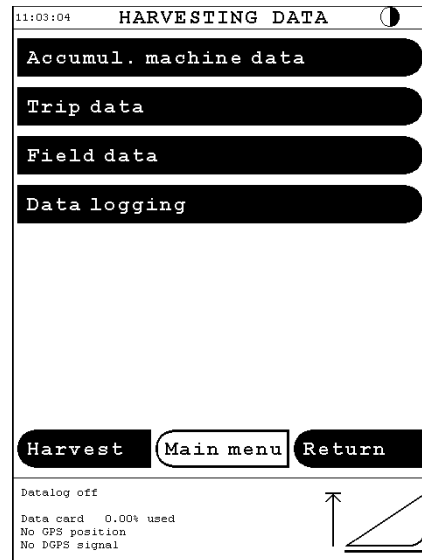

Fig. 22
4.6.1 Data Logging in General, (Fig. 22)
1. "Data logging" must be activated in the machine setup, see (Fig. 22).